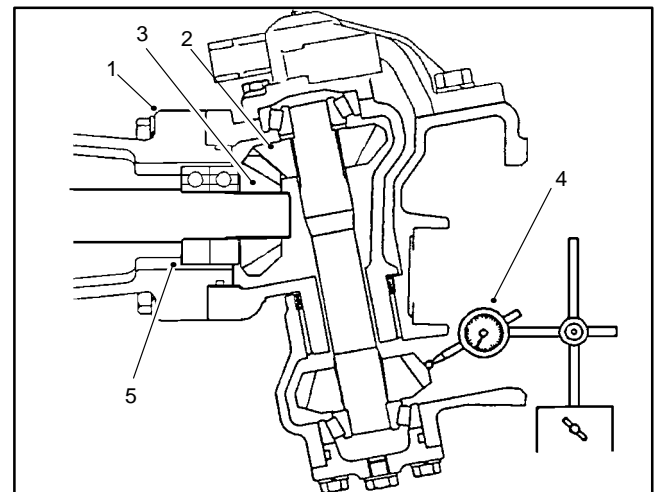

Figure 20
7. Temporarily install the bevel gear case/axle case assembly on the axle support. Position a dial indicator at the teeth center. Prevent the axle from turning and measure the upper bevel gear to differential shaft gear backlash (Fig. 20).